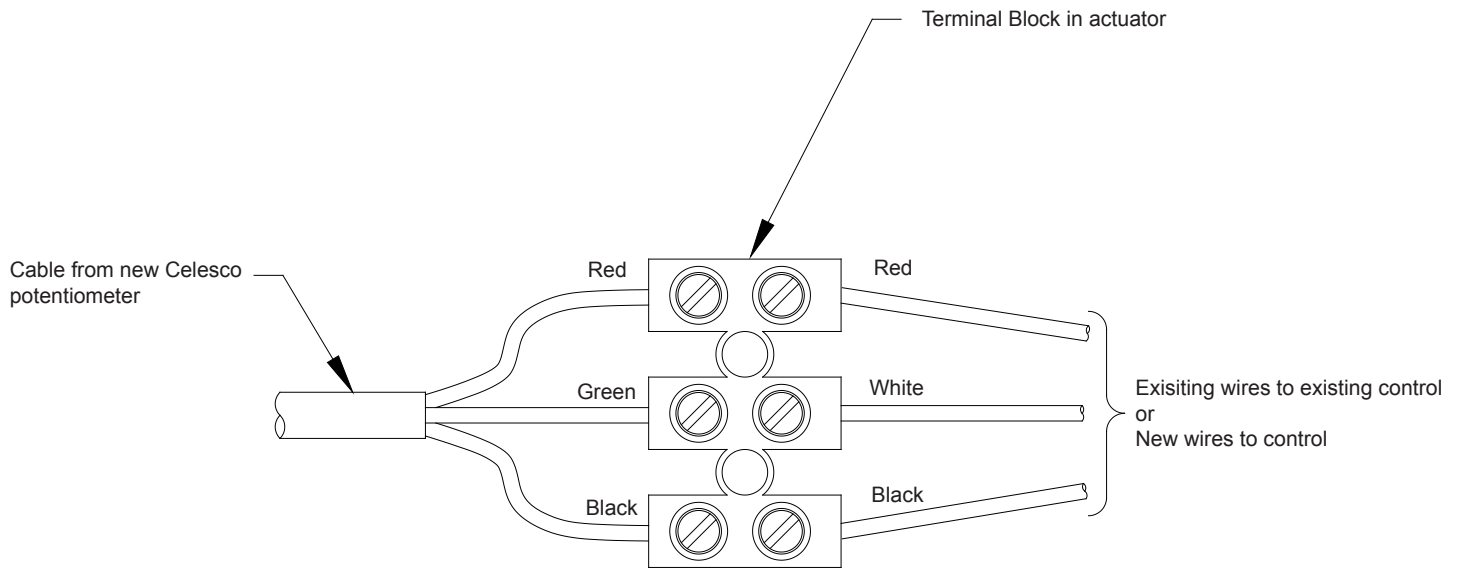

Figure 6
8) Attach the Celesco potentiometer wires to the terminal block. Red wire to red wire, green to white and black to black. **See Figure 6.**